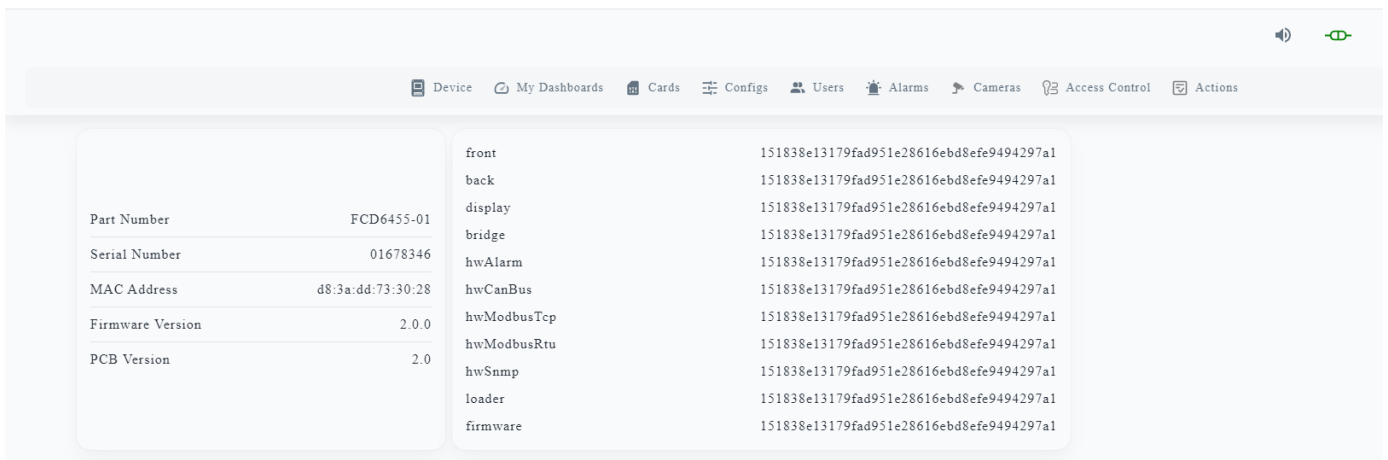

Figure 19: Device Info Page
■ The **Device Info** submenu includes system information about the device, including the product code, serial number, MAC address, and firmware version (Figure 19).